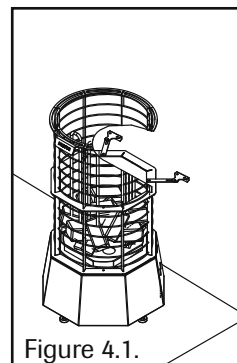

Figure 4.1.
- The stove is attached to the wall or sauna benches with two fastening elements as shown in figures 4.1 and 4.2.